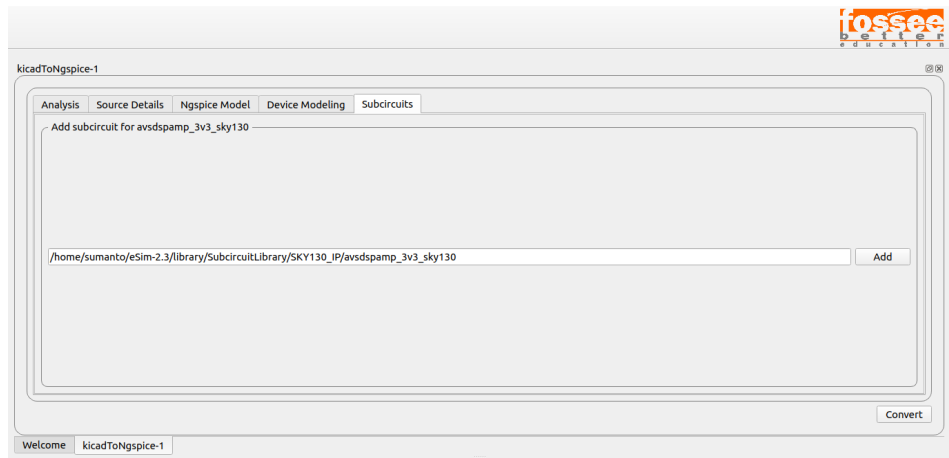

Figure 9.8: Subcircuit Added
- The Subcircuit chosen gets added. Refer Fig. 9.8.